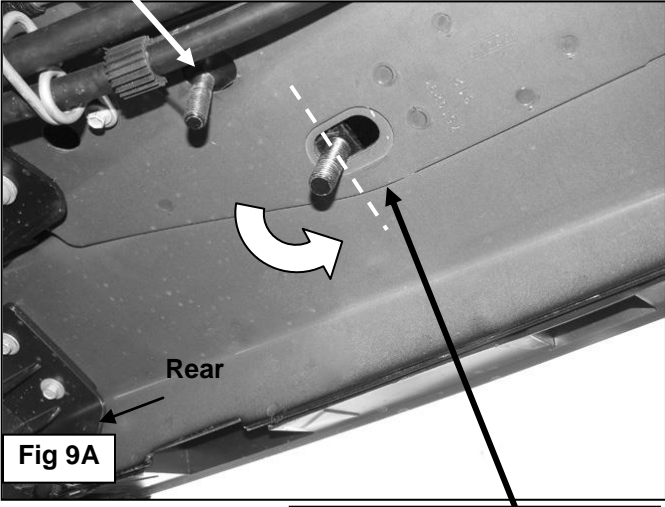
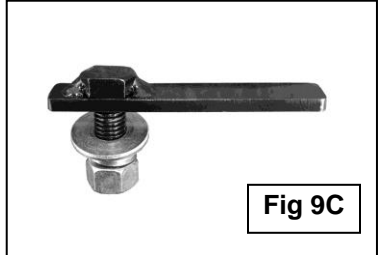

Fig 9A
Fig 9C
7. Move toward the rear location. Locate the oval and round holes in the floor panel toward the rear of the vehicle, **(Figure 9A)**. Insert (1) 10mm x 35mm Bolt Plate into the round hole, **(Figure 9B)**. Insert (1) 12mm x 40mm Long Bolt Plate into the oval hole next to the pinch weld, **(Figure 9C)**. Rotate the 12mm Bolt Plate 90-degrees so that the plate is across the oval hole.